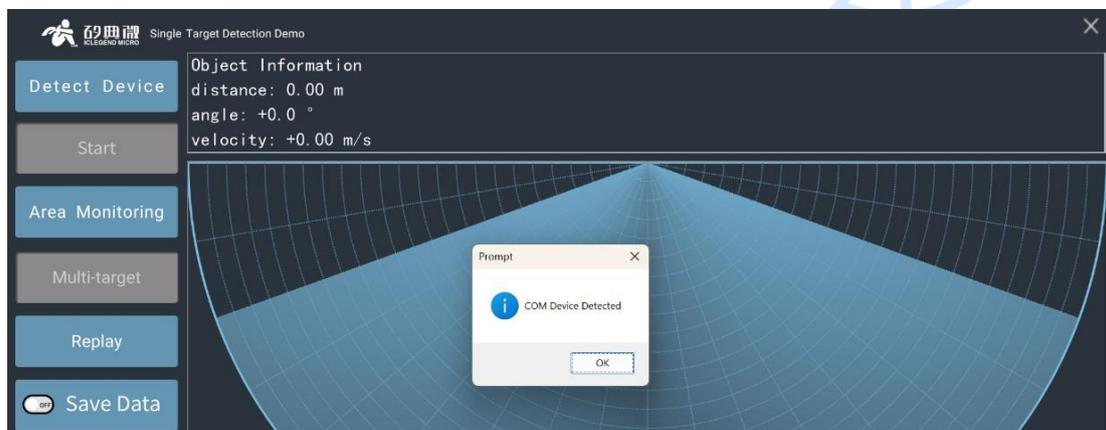

Figure 6-2 Device successfully detected
Step 2: Click the **Detect Device** button: if the board is successfully connected to the host PC, a window writing Serial Port Device Detected will appear, as shown in Figure 6-2, click the **OK** button to continue;